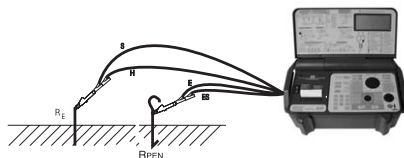

Figure 6.4.1, 2-pole Measurement
- ▶ Connect the 4-pole test leads to instrument, measurement connectors (17).
- ▶ Connect the test leads with object see figure 6.4.1 or 6.4.2.
- ▶ Press the key "START" (2). The test voltage will be applied to the test object for approx. 2 seconds or is applied as long as the key is held pressed. Immediately on completion of test, the UUT is automatically discharged.